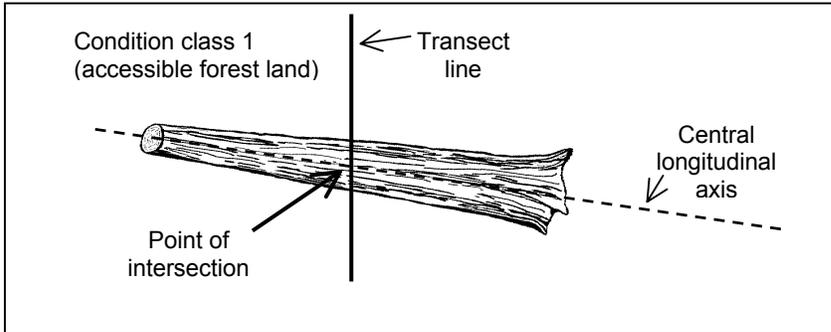

Figure 14-3. Tally rules for CWD.
1. Coarse woody debris (CWD) is sampled in accessible forest land conditions only. Tally a piece if its central longitudinal axis intersects the transect, and the condition class is accessible forest land at the point of intersection (Figure 14-3). The entire piece is assigned to this condition.